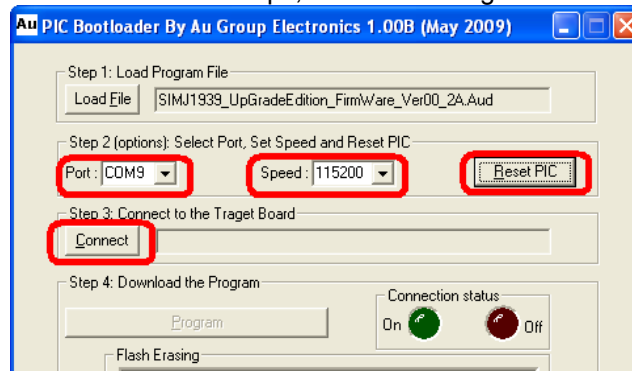

Figure C-12
- Set the communication Baud Rate at 115200 bps, as shown in Figure C-12
Connect +9~+12V DC power supply to Au J1939 Simulator at the "BUS" side, then click "Reset PIC" button on Au PIC Bootloader User Interface (Figure C-12). "Warning" LED will be blinking.
Within 10 seconds, click "Connect" button (Figure C-12).